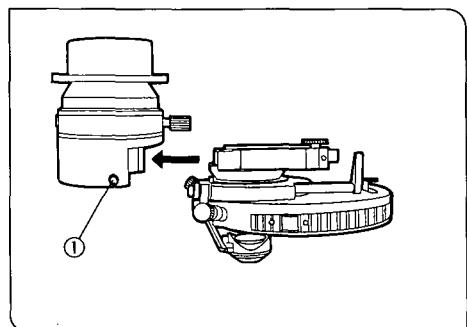

Fig. 34
Transmitted Light Universal Condenser (U-UCDB) (Figs. 34, 35)**『Attaching the Condenser to the UCD Adapter』**
1. Using the Allen screwdriver, loosen the two set screws ① on the UCD adapter (IX-ADUCD). (Fig. 34)
3. Tighten the two set screws ① with the Allen screwdriver. (Fig. 34)